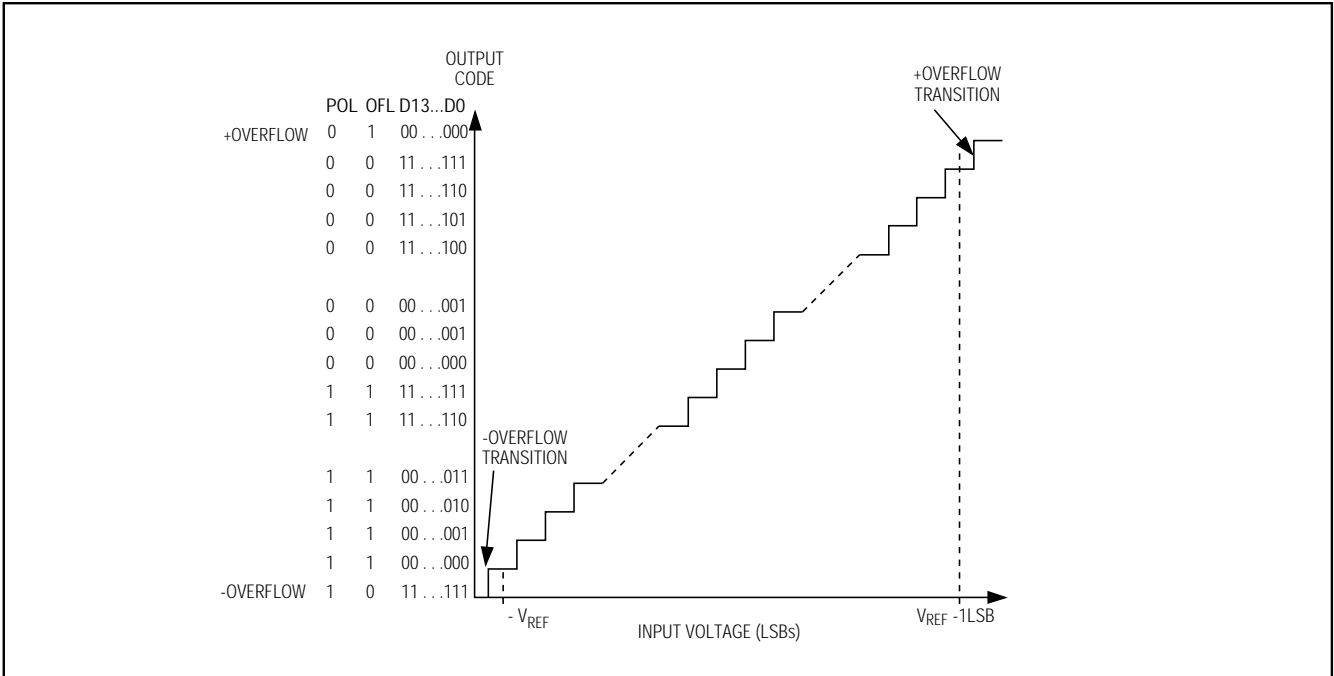
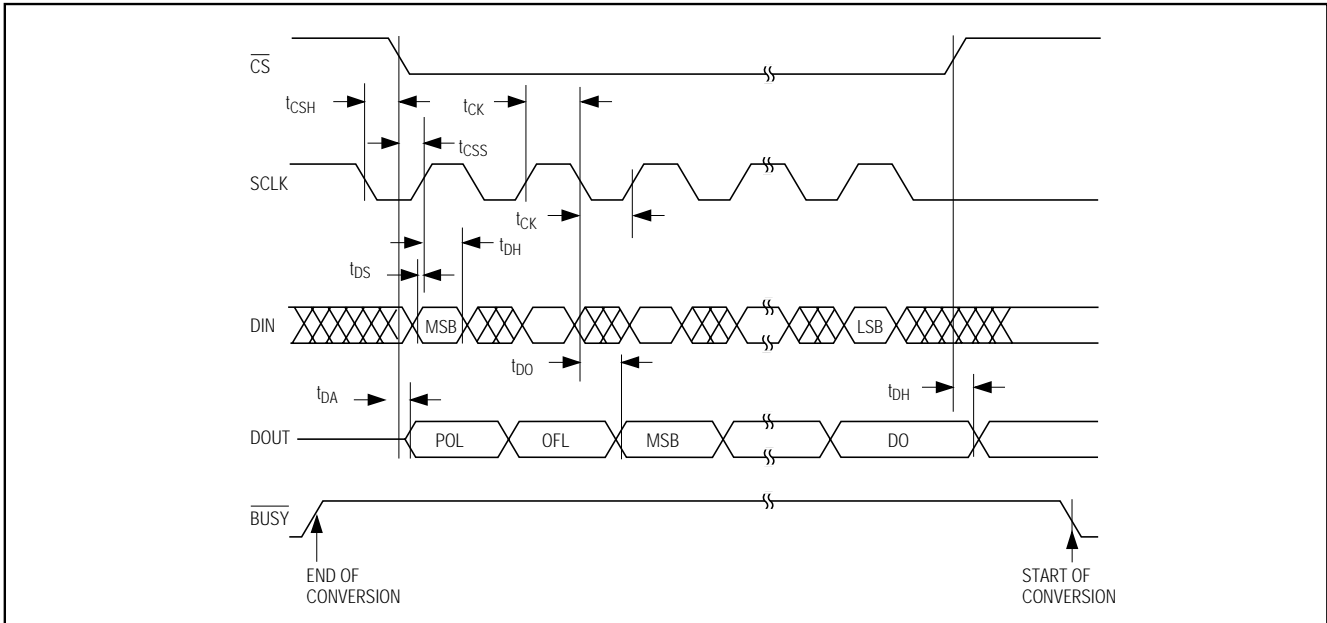

Figure 4. Differential Transfer Function
Figure 6. Detailed Serial-Interface Timing
The output data from the MAX110/MAX111 is arranged in twos-complement format (Figures 4, 5). The sign bit (POL) is shifted out first, followed by the overrange bit (OR), and the 14 data bits (MSB first) (see Figure 6). The MAX110 operates from  $\pm 5V$  power supplies and converts low-frequency analog signals in the  $\pm 3V$  range when using the maximum reference voltage of  $V_{REF} = 3V$  ( $V_{REF} = V_{REF+} - V_{REF-}$ ). Within the  $\pm 3V$  input range, greater accuracy is obtained within  $\pm 2.5V$  (see *Electrical Characteristics* for details). Note that a negative input voltage is defined as  $V_{IN-} > V_{IN+}$ . For the MAX110, the absolute voltage at any analog input pin must remain within the  $(V_{SS} + 2.25V)$  to  $(V_{DD} - 2.25V)$  range.
Data is transferred into and out of the serial I/O shift register by pulling  $\overline{CS}$  low and applying a serial clock at SCLK. This fully static shift register allows SCLK to range from DC to 2MHz. Output data from the ADC is clocked out on SCLK’s falling edge and should be read on SCLK’s rising edge. Input data to the ADC at DIN is clocked in on SCLK’s rising edge. A new conversion begins when  $\overline{CS}$  returns high, provided the MSB in the input control word (NO-OP) is a 1 (see *Using the MAX110/MAX111 with MICROWIRE, SPI, and QSPI Serial Interfaces*). Figure 6 shows the detailed serial-interface timing diagram.